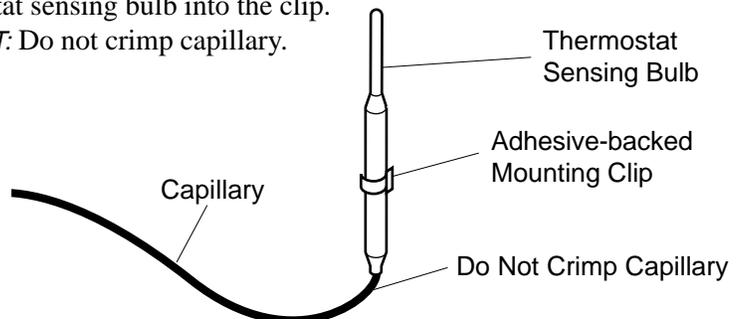

Figure 41 - Positioning the Thermostat Sensing Bulb in the Vertical Position with the Capillary at the Bottom
- The mounting clip must be a minimum of 3" from bottom of fireplace to prevent crimping of capillary. Once you have decided on a location, clean the area thoroughly. Remove the paper backing from the adhesive on back of mounting clip. Press the clip into the new location so that the thermostat sensing bulb will be positioned vertically with the capillary at the bottom (see Figure 41). Slide the thermostat sensing bulb into the clip.